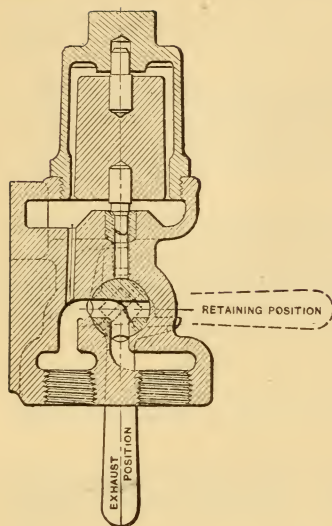
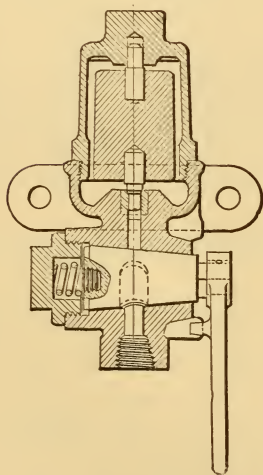
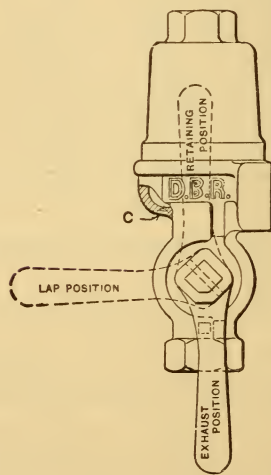

FIG. 16.—RETAINING VALVE USED WITH 12, 14 AND 16-INCH BRAKE CYLINDERS.
FIG. 18.—STANDARD RETAINING VALVE USED WITH 6, 8 AND 10-INCH BRAKE CYLINDERS.
FIG. 19.—DRIVER-BRAKE RETAINING VALVE.
Q. What are the retaining valves shown in Figs. 16, 17, 18 and 19?
A. Figs. 16 and 17 represent valves designed to operate with 12, 14 and 16-inch cylinders. Though slightly different in structure, the operation is practically the same as the one already described.
A. Five. The one shown in Fig. 18 is for use with 6, 8, and 10-inch cylinders on non-vestibule cars; practically the same valve, but with an extension handle and key at right angles, is used on vestibule cars. Figs. 16 and 17 represent the corresponding valves for use with 12, 14, and 16-inch cylinders. Fig. 19 is a cut of the Driver-Brake Retaining Valve.